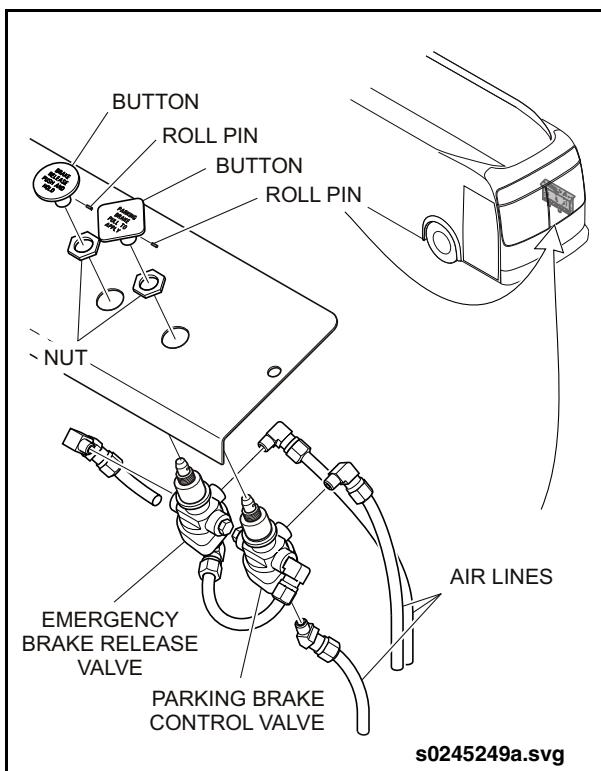

Fig. 8-25: Parking & Emergency Release Valve Installation
1. Remove the screws from parking brake tower close-out panel and remove panel. See "Fig. 8-25: Parking & Emergency Release Valve Installation" on page 86.